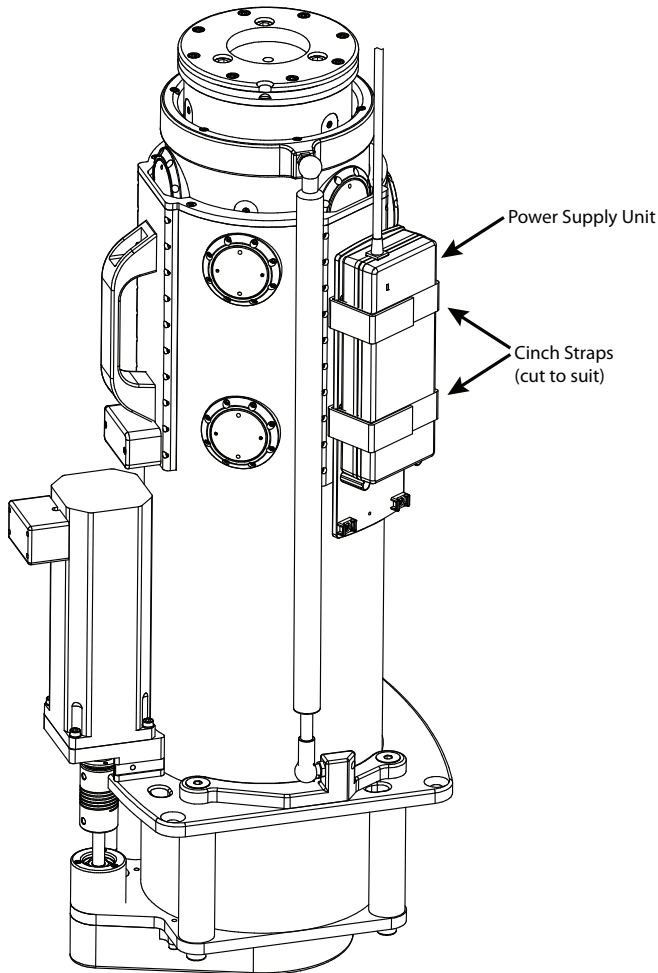

Figure 3 - Fastening the Power Supply Unit
3. Position the power supply unit in the bracket and fasten it with the cinch straps, cutting the straps to suitable length to secure the power supply unit (Figure 3).